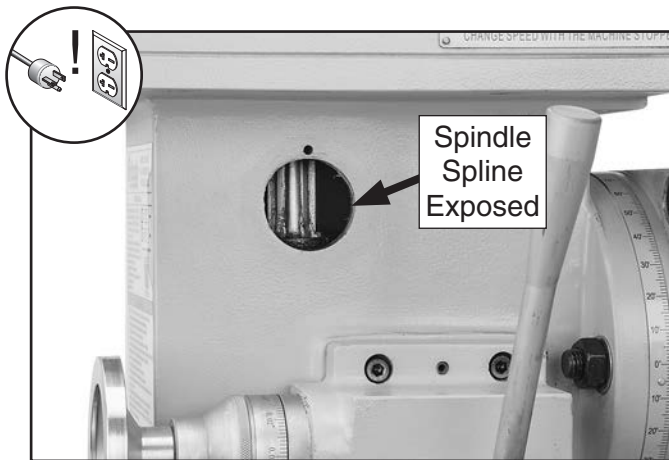

Figure 65. Vertical spindle spline exposed for lubrication.
1. Remove circular cover on right side of head to expose vertical spindle spline (see **Figure 65**).